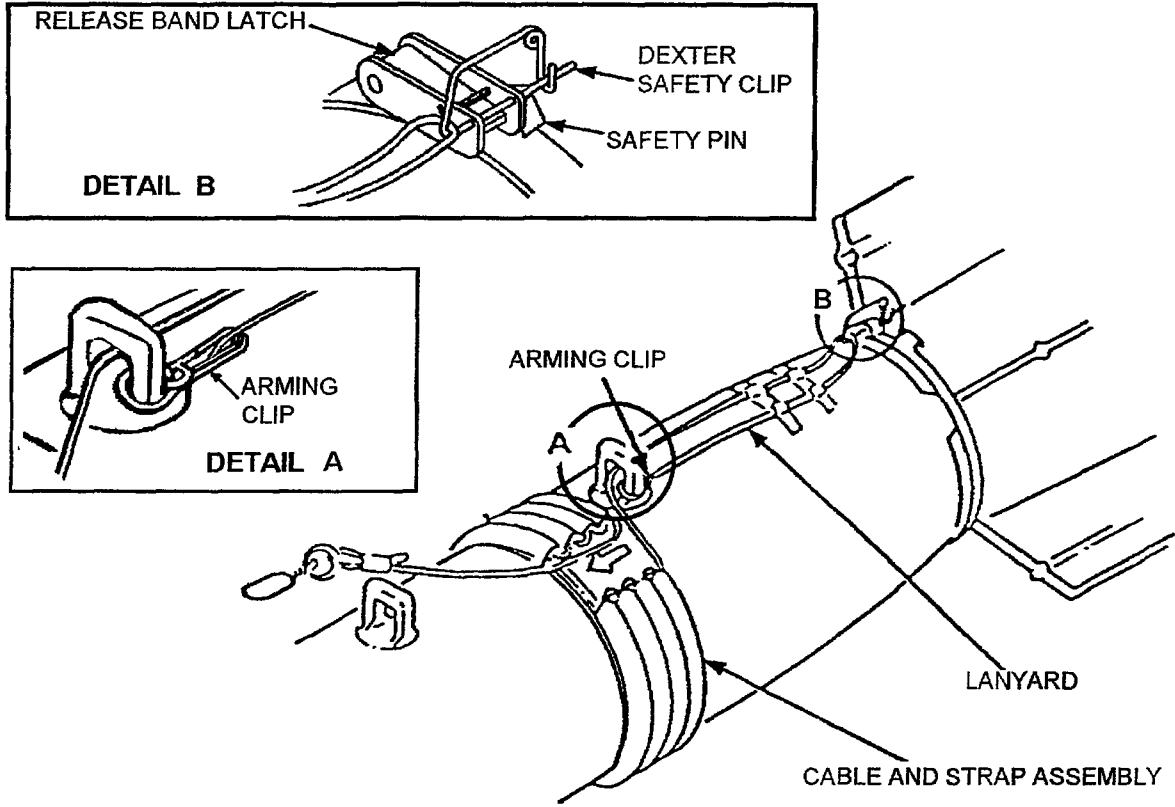

Figure 4-11H. Cable and Strap Assembly Installation (P-3 Aircraft)
- (2) Position cable and strap assembly on bomb in front of aft suspension lug, with arrow pointing forward and to the left of lug about 1 inch.
- (3) Pass pad end of strap assembly through tension buckle, pull tight to bomb, and secure by pressing fastener (Velcro) pads together. Pads must be tight to ensure strap assembly cannot move.
- (4) Pass the arming clip of the cable and strap assembly through a safety clip (Figure 4-11H).
- (5) Pass the safety clip through the aft suspension lug. Loop the cable and strap assembly arming clip around the aft suspension lug. Secure lanyard by attaching the arming clip to the lanyard. Wrap arming clip with three turns of pressure sensitive tape or tie down strap; cut off excess tie down strap.
- (6) While pulling lanyard from cable and strap assembly, install the safety clip through the two inside holes in the release band latch; then close the clip.
- (7) Pull on lanyard to make it taut. Secure lanyard to bomb with two or three 4-inch lengths of pressure sensitive tape, extending the tape at least 2 inches on both sides of the lanyard (Figure 4-11H).